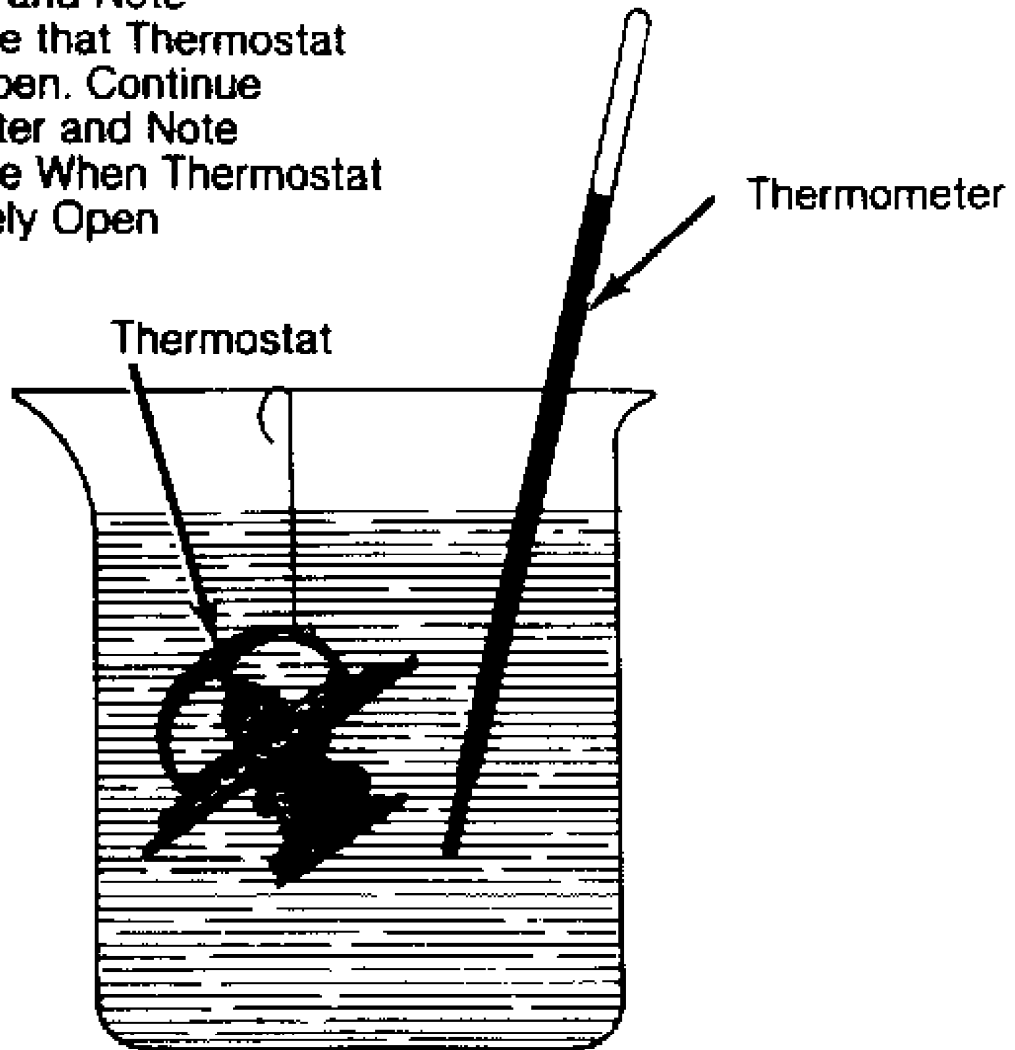

Fig. 1: Testing Thermostat in Anti-Freeze/Water Solution
1) Visually inspect thermostat for corrosion and proper sealing of valve and seat. If satisfactory, suspend thermostat and a thermometer in a container with a 50/50 mixture of anti-freeze and water. See Fig. 1.